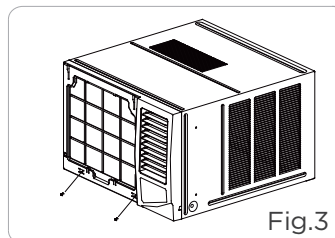

Fig.3
1. Remove two screws at the bottom of the frame.(See Fig. 3)
3. Install the cabinet into the wall and secure. Ensure the foam seals are not damaged. Flash, seal or fill gaps around the inside and outside to provide satisfactory appearance and protection against the weather, insects and rodents. (see Fig.3)